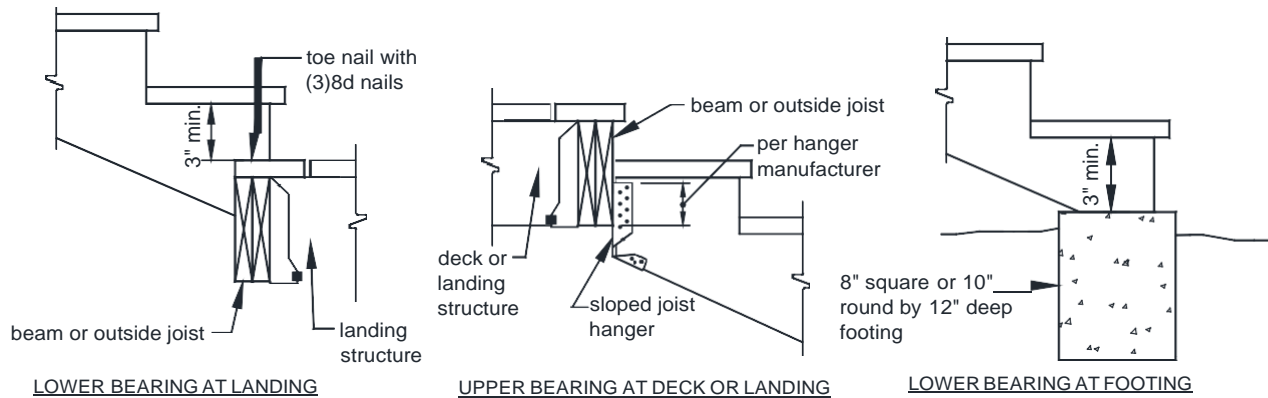

FIGURE 38: STRINGER BEARING
- Stringers shall bear on footings and attach to the deck or landing per FIGURE 38.